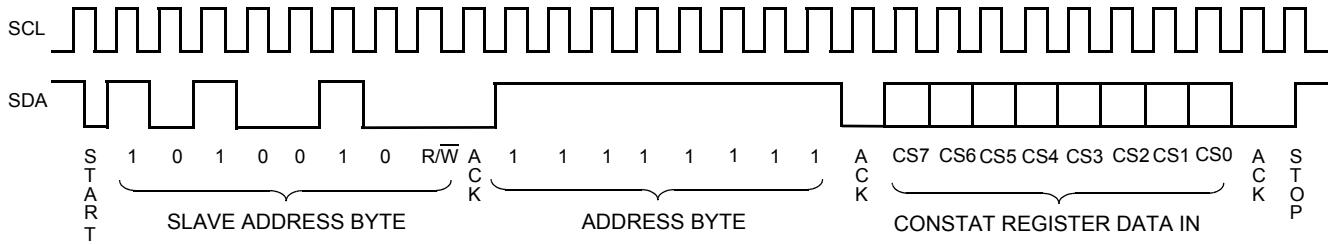

Figure 12. CONSTAT Register Write Command Sequence
Writes to the WEL bit do not cause an internal high voltage write cycle. Therefore, the device is ready for another operation immediately after a STOP condition is executed in the CONSTAT Write command sequence (See Figure 12).
- After a successful write operation to any bits of the CONSTAT register has been completed (See Figure 12).
The CONSTAT register is accessed using the Slave Address set to 1010010 (Refer to Figure 4). Following the Slave Address Byte, access to the CONSTAT register requires an Address Byte which must be set to FFh. Only one data byte is allowed to be written for each CONSTAT register Write operation. The user must issue a STOP, after sending this byte to the register, to initiate the nonvolatile cycle that stores the DWLK bit. The X9522 will not ACKNOWLEDGE any data bytes written after the first byte is entered (Refer to Figure 12.).